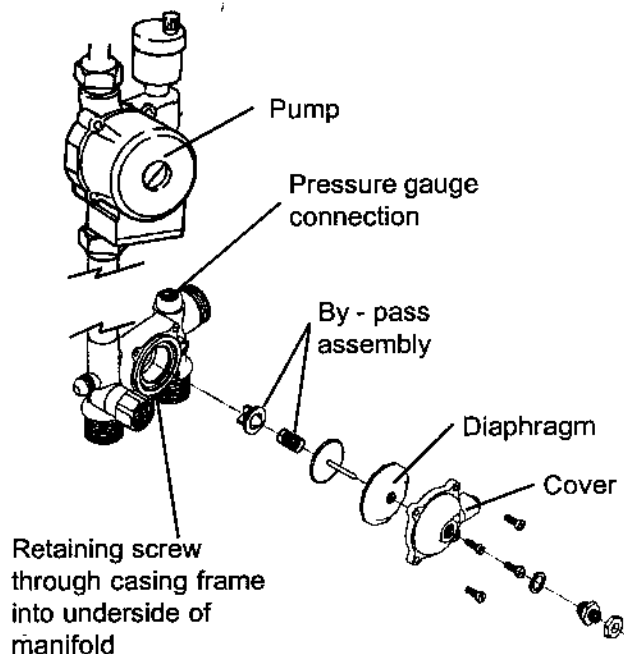

Fig. 33
Part No 3175 Refer to fig. 33
Refer to fig. 33 for location of components.
- 8.18.3 Trace capillary from back of gauge to connecting point on heating manifold (fig. 33).
8.19.2 FLOW MICRO SWITCH Part No 4302 Refer to fig. 33